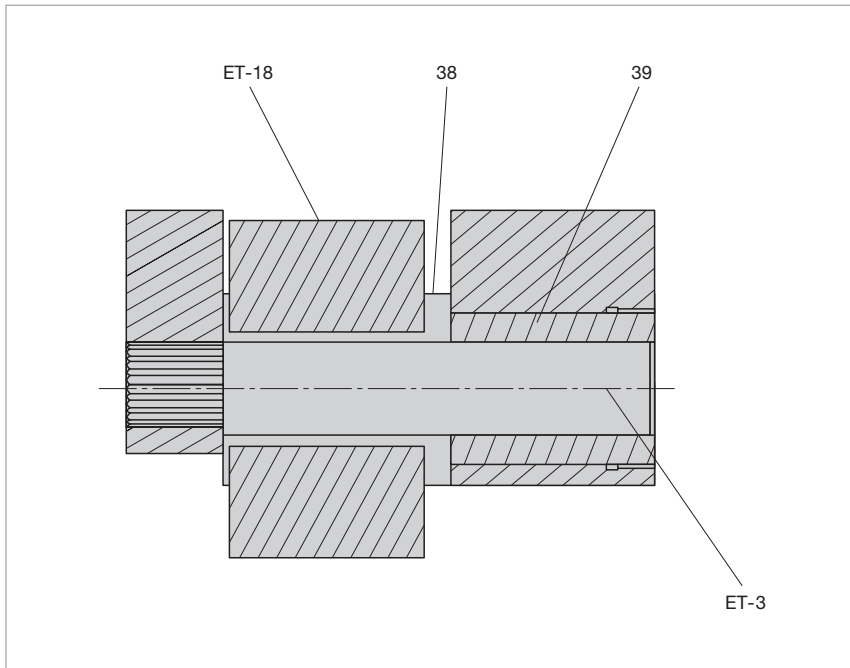

Figure 21: Kit for knurling and burnishing
- b) To modify an existing tangential rolling head, proceed as follows (see also Figure 21):